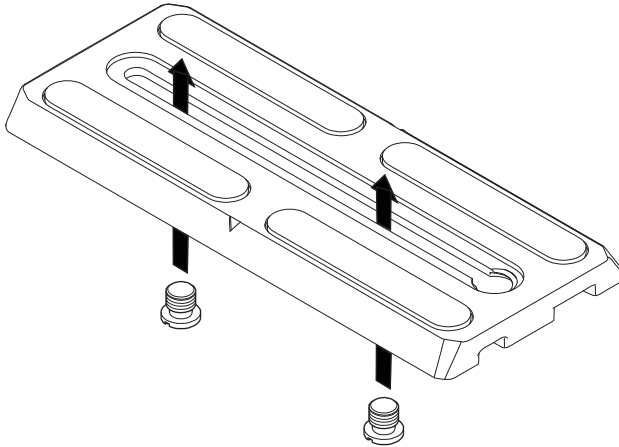

Fig. 4 Fitting the 3/8 in. camera mounting screws
Position the two 3/8 in. camera screws (17) as far apart as possible on the camera slide plate (16) (Fig. 4).